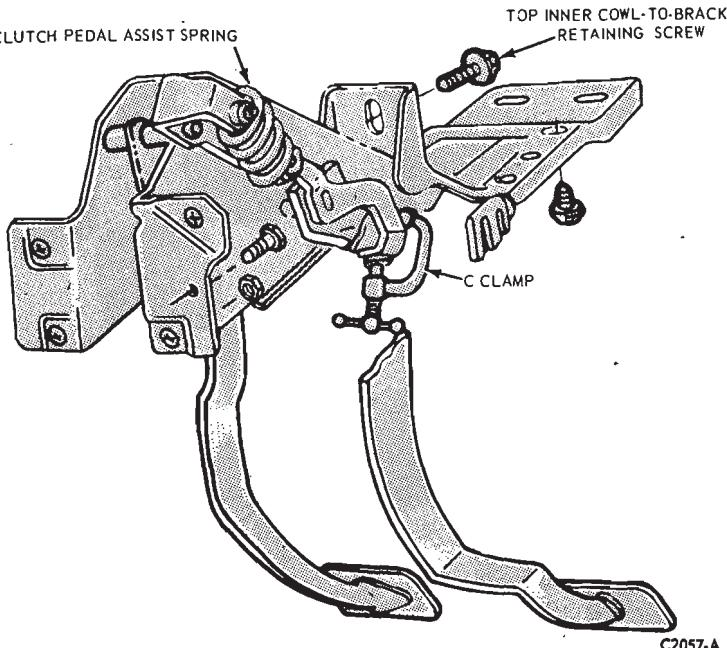

FIG. 6—Clutch Pedal—Mustang and Cougar
5. Secure the clutch pedal against the bumper stop with a small C-clamp as shown in Fig. 6.
8. Remove the screw retaining the pedal support bracket to the top inner cowl bracket (Fig. 6).
17. Install the clutch pedal assist spring and pivot the pedal against its bumper stop. Secure the pedal against the bumper with a small C-clamp as shown in Fig. 6.
21. Install the screw attaching the support bracket to the top inner cowl bracket (Fig. 6).